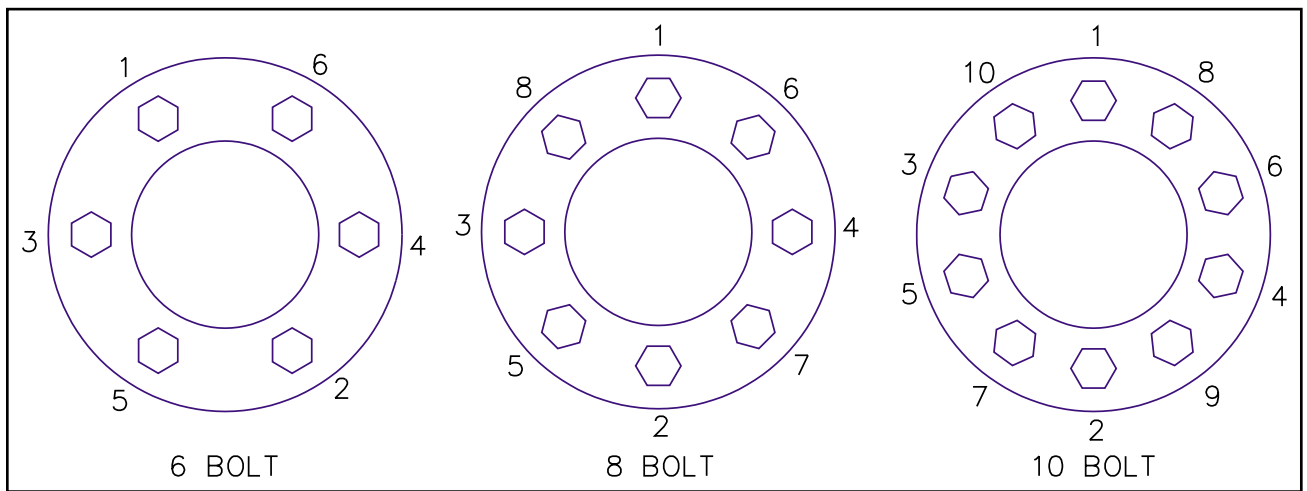

Figure 4-20 Stud Tightening Sequence
- c. Install the inner capnuts on the studs and tighten to fifty foot-pounds using the sequence illustrated in Figure 4-20. Make certain that the left-handed threads are installed on the driver side of the vehicle and the right-handed threads are installed on the curbside of the vehicle.
- d. Tighten the inner capnuts to full torque of 450 to 500 foot-pounds using the sequence shown in Figure 4-20.
- f. Install the outer capnuts and tighten to 50 foot-pounds using the sequence in Figure 4-20. Then tighten to full torque of 450 to 500 foot-pounds using the same sequence.
BENDING OR WARPING	Curb-hopping or potholes: Adjust turning practices and speed according to road conditions. Improper tightening sequence: Follow proper tightening sequence. (See Figure 4-20)